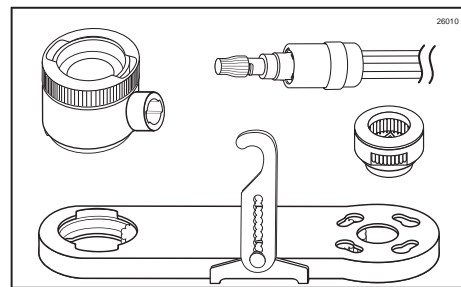

Figure 109
6. Clean the Injector Assembly and other parts for off-season storage according to DAILY CLOSING PROCEDURES and SCHEDULED MAINTENANCE sections. (See Figure 109.)